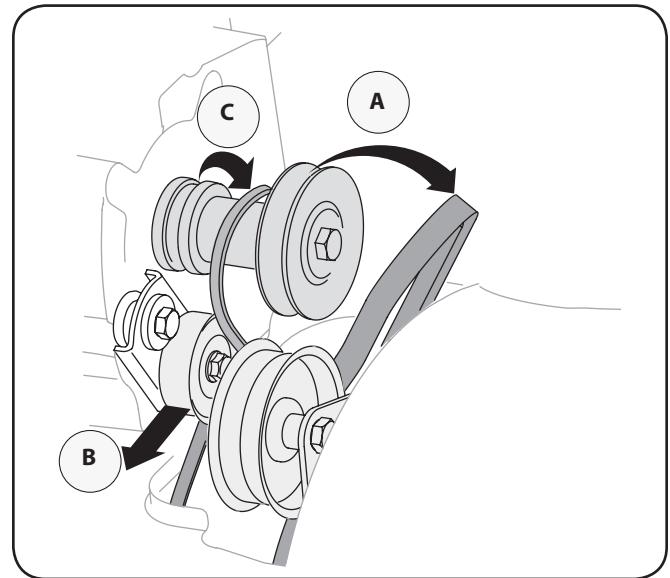

Figure 7-6
- b. Pivot the idler pulley toward the right. See Figure 7-6.